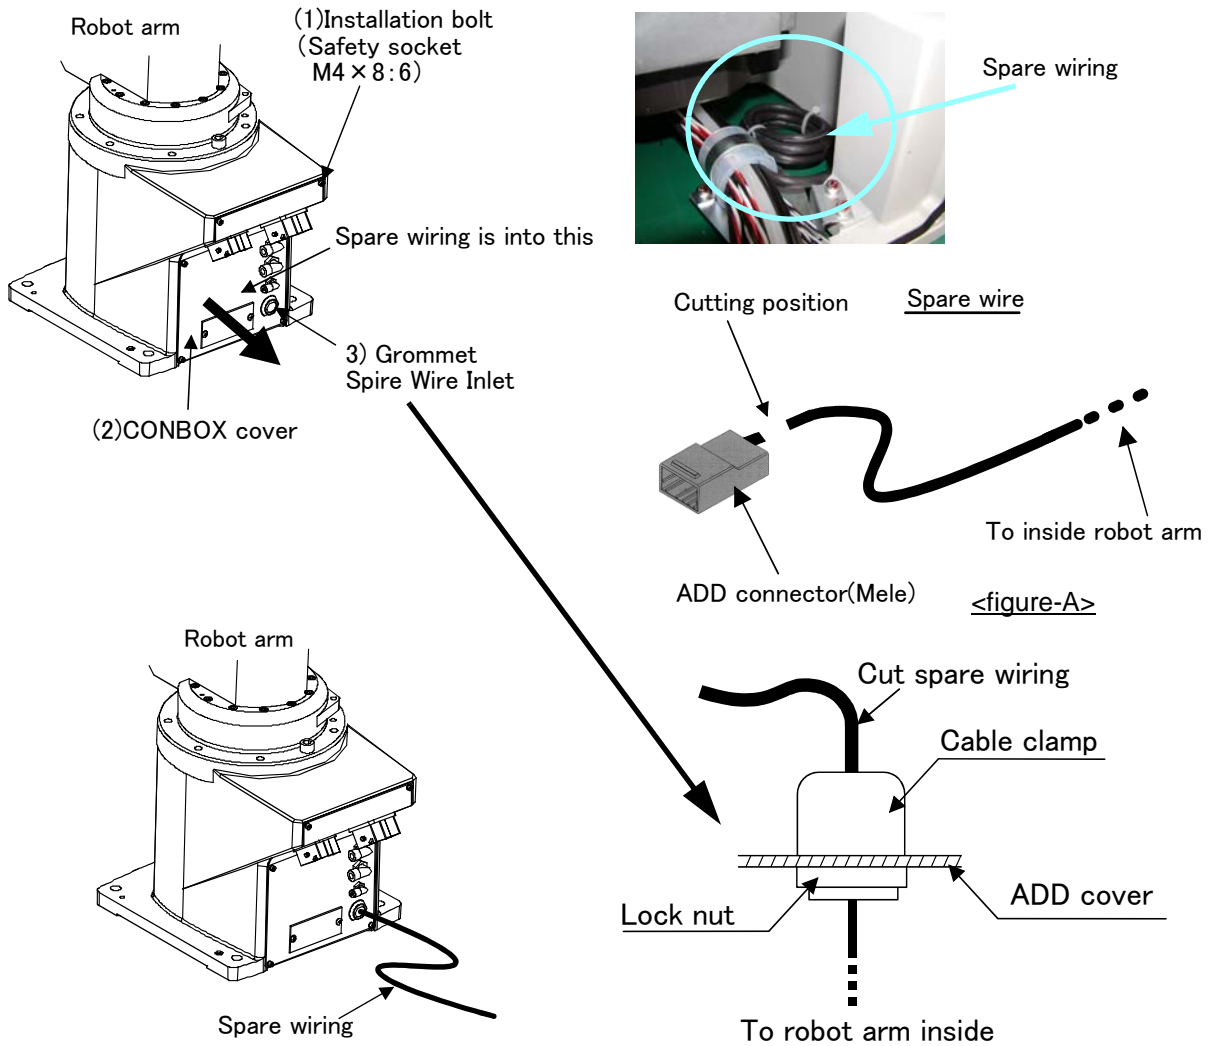

Fig.2-9 : Pull out spare wiring(Base area)
- 5) Cut spare wiring near the connector (from the connector end to the about 10-20mm. Refer to figure-A in Fig. 2-9)
- 10) Install CONBOX cover(2) as before. Apply the screw lock to installation bolt (1), fix it with torque (4.1Nm to 4.9Nm). (Recommendation screw lock: Lock tightness 242 (Henkel Japan maker., Inc.) Be careful not to damage the seal material of the shape of the sponge pasting on "A section" If it damages, there is a